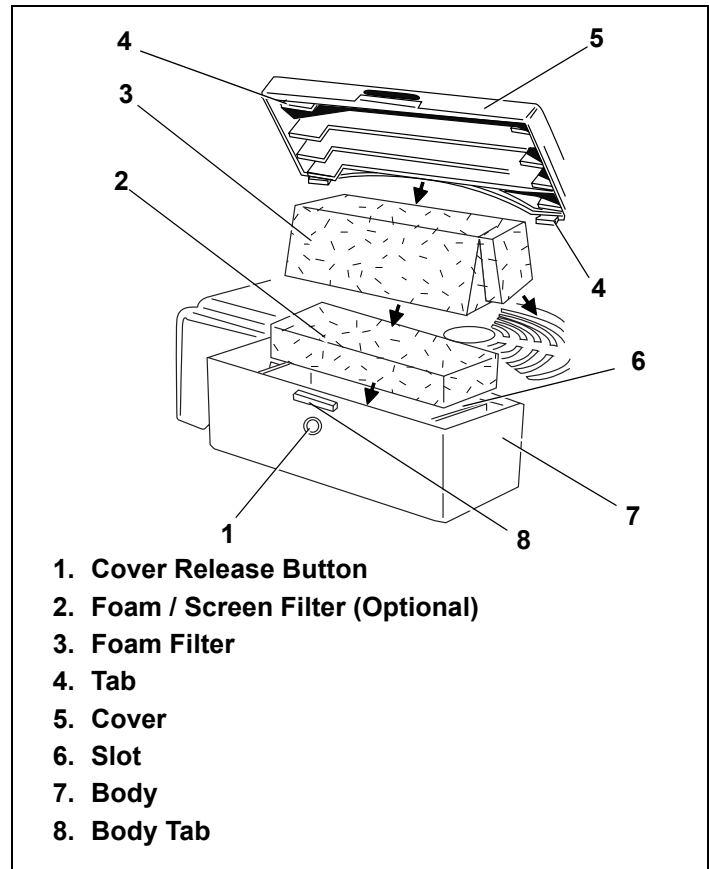

Figure 48. Air Cleaner Type “A” Assembly
Your engine has an air cleaner which helps prevent premature engine wear and failure. NEVER run engine without complete air cleaner installed on engine. Your air cleaner periodically needs to be cleaned or replaced. To do this, you first need to determine the type of air cleaner on your engine. Your engine will be equipped with one of the following air cleaners; Type A, B, C, D or E. Follow instructions for the air cleaner type that resembles your model. See Figures 48 thru 52 starting on page 19. Afterward, continue reading instructions below.
1. Press cover release button and lift cover upward. See Figure 48.